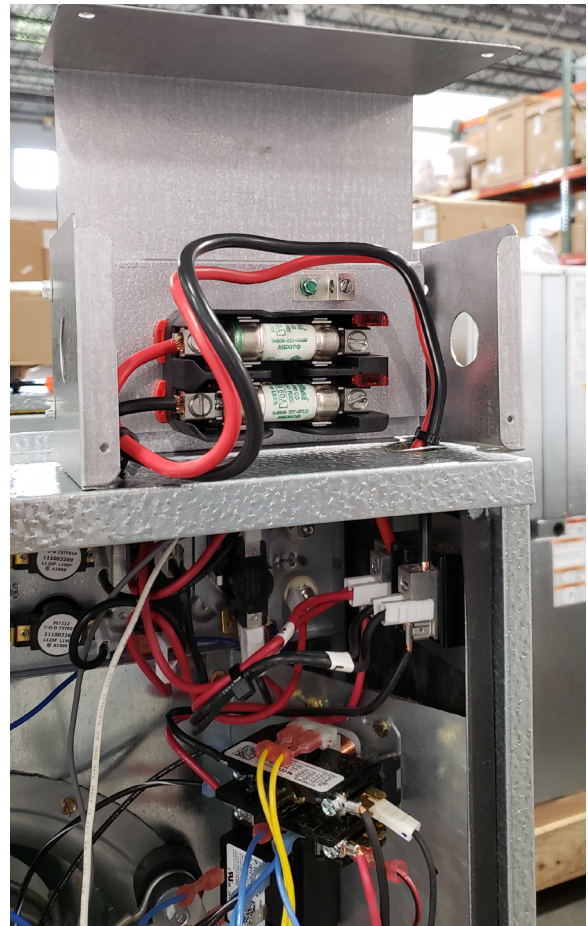
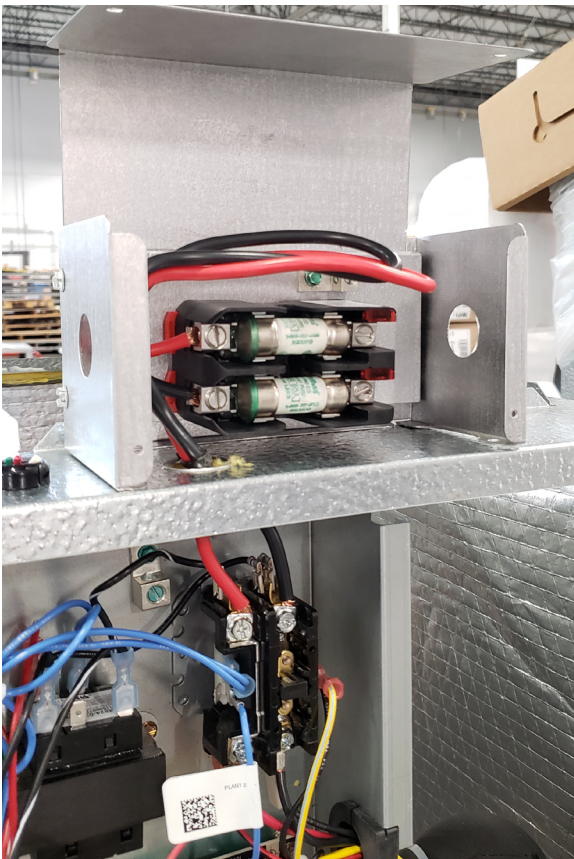
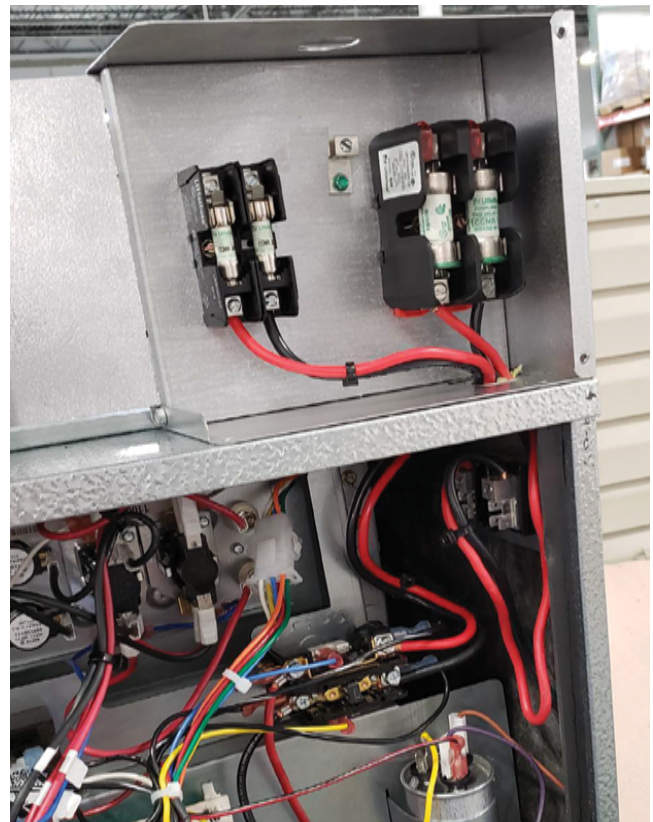

Figure 2. MHP/MCE 1-Circuit SCCR Assembly
Figure 1. MGE 1-Circuit SCCR Assembly
Figure 3. MHP 2-Circuit SCCR Assembly
- a. **1-Circuit MGE Application:** Route wire harness to the unit's Contactor. Refer to unit's wiring diagram and Figure 1.
- b. **1-Circuit MHP/MCE Application:** Route wire harness to unit's Terminal Block. Refer to unit's wiring diagram and Figure 2.
- c. **2-Circuit Application (select MHP models):** 2 wire harnesses are provided in the SCCR Box Assembly. Route wire harness from the larger Fuse Block to unit's Terminal Block. Route wire harness from smaller Fuse Block to the Contactor. Refer to unit's wiring diagram and Figure 3.
5. Position the SCCR Box Assembly on the unit's Top Cap with the label facing the installer. Align the Assembly with the field power supply opening in the Top Cap (see Figure 1, Figure 2, or Figure 3).